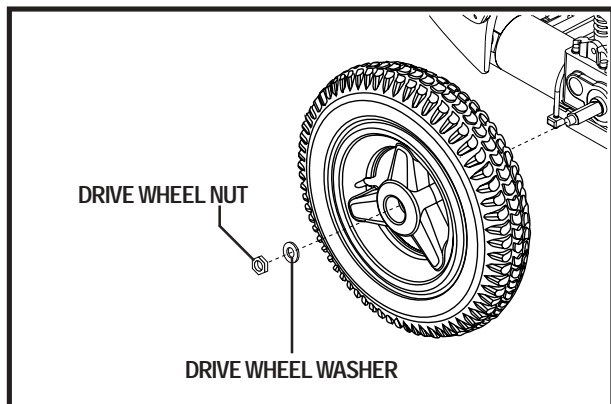

Figure 24. Quantum 1402 Drive Wheel
4. Remove the drive wheel nut and washer from the axle. See figure 24.